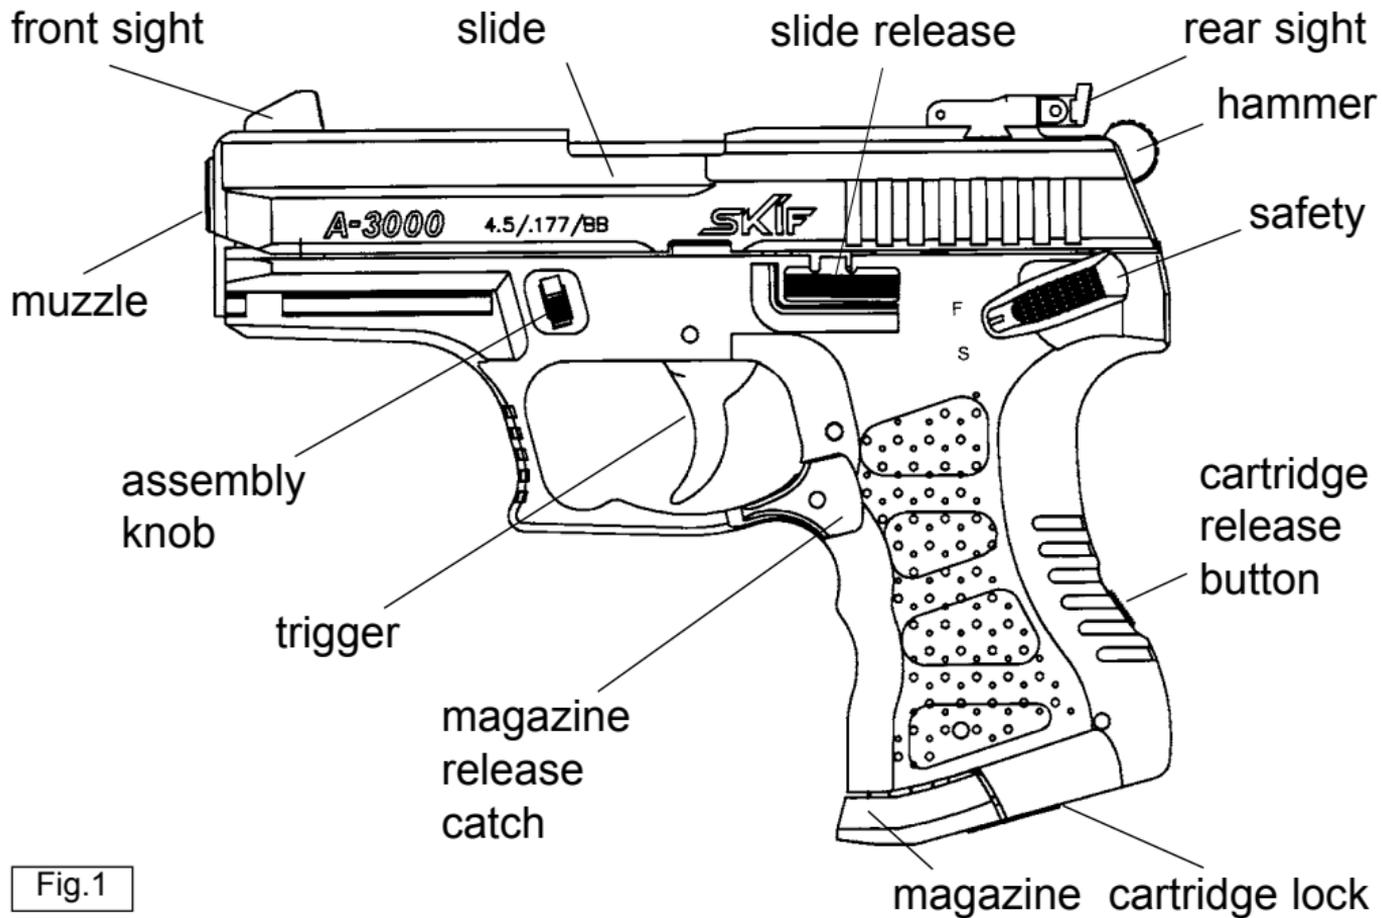

Fig.1
- Move left and right knobs (Fig.1) downwards